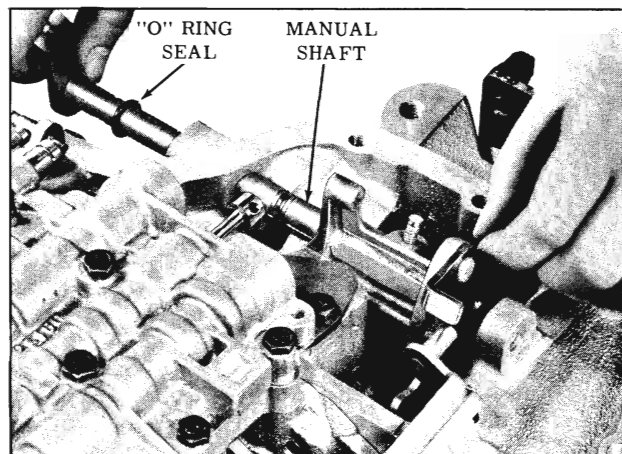

Fig. 3-320 Installing Manual Shaft
61. Install an "O" ring seal on manual lever shaft and install shaft as shown. (Fig. 3-320)